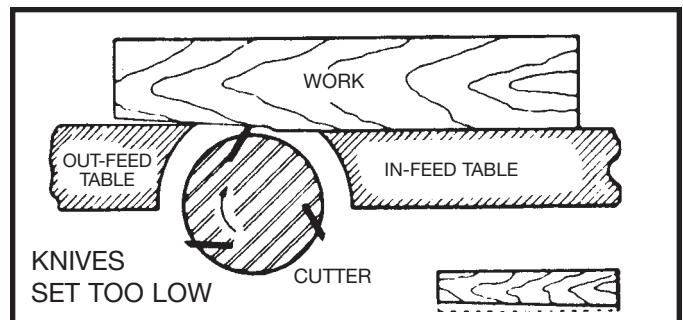

Fig. 43
7. If the knives are set too low, the result will be as shown in Fig. 43, and the finished surface will be curved.